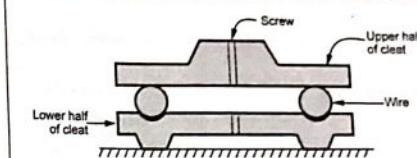

Fig. 6.3.1 Cleat wiring
- The lower half of the porcelain cleat is known as base having grooves for conductors while the upper half is known as cap which is shown in the Fig. 6.3.1.